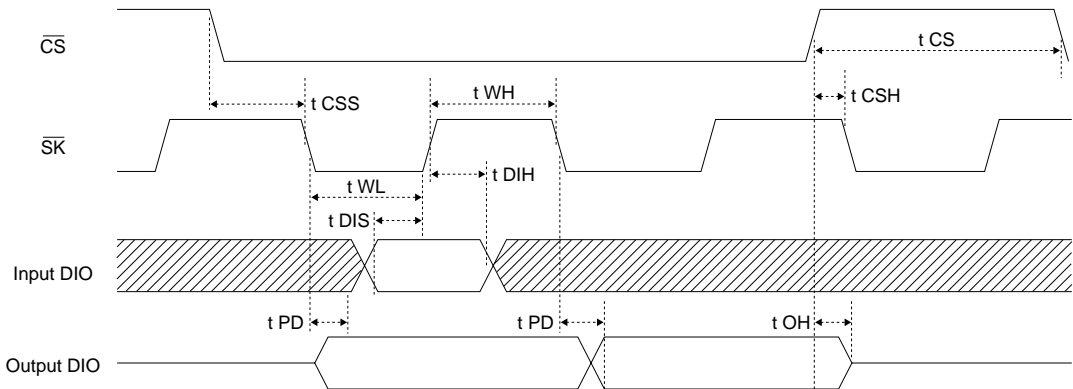

Fig. 10 Synchronous data I / O timing
- 1) When the Wiper Counter Data Output (WCR) command is received, seven bits of the data at the current wiper position are output to D8, D9, D10, ..., D14, in sequential order. If a clock of longer than 24 clocks is input, indefinite data may be output. (For the DIO output, the data may change at the t_{PD0} and t_{PD1} time delays, in response to the internal circuit delay starting from the falling edge of the \overline{SK} signal. During the t_{PD0} and t_{PD1} time intervals, data should be loaded after the t_{PD} time has been assured, in case the previous data is indefinite. Refer to Fig. 10, Synchronous data I / O timing.)
(3) Wiper counter data input (WCW)